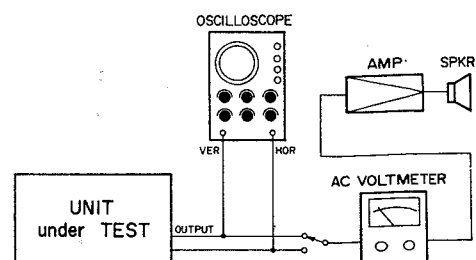

Fig. 7-28. Head Azimuth Test Set-Up
3. Connect an AF level meter to the OUTPUT jack(s) as shown in Fig. 7-28.